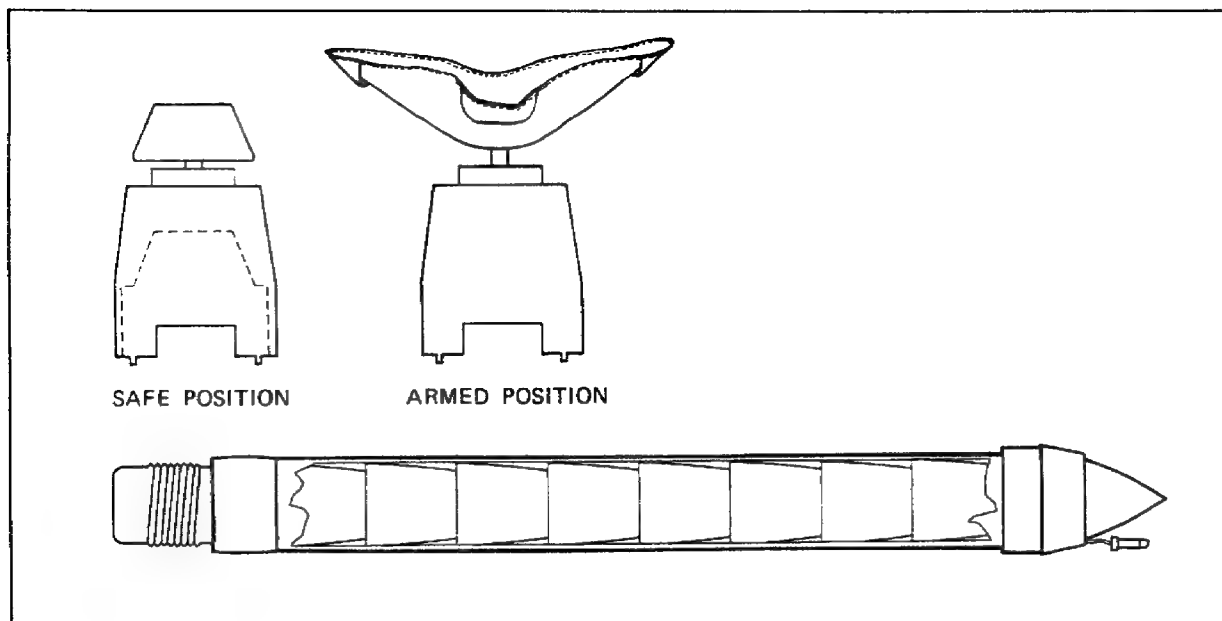

Figure 46. 2.75-Inch Rocket Multipurpose Submunition Warhead, M261.
**Warheads.** The 2.75-inch aircraft rocket also uses a variety of warheads, including, among others: high-explosive (HE) in two lengths, 13 inches and 23 inches; high-explosive antitank (HEAT); antipersonnel (apers) flechette; smoke-white phosphorous (SMK-WP); smoke screen; illuminating; and practice (has no spotting charge). There are several other types of warheads in various stages of development and distribution. Many contain small submunitions that are ejected from the warhead while the rocket is in flight. An example of this is the M261 multipurpose submunition (MPSM) warhead (Figure 46), the latest development in the HYDRA-70 rocket system.